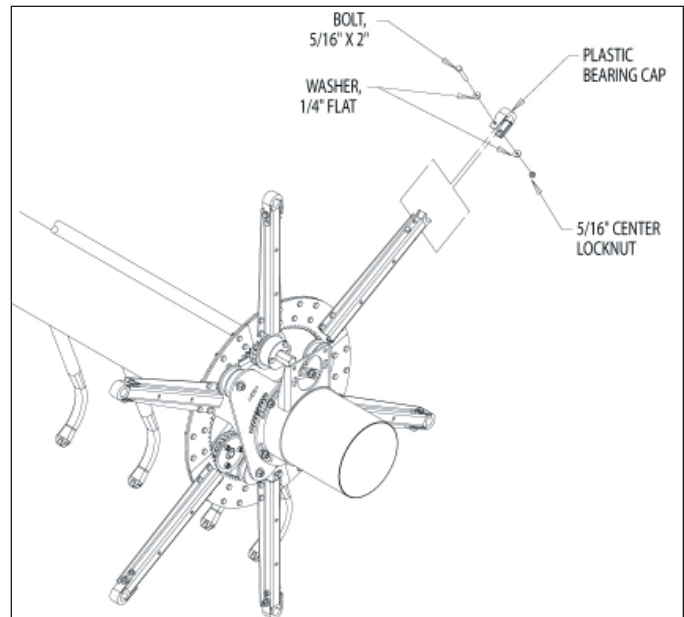

Figure 30, Remove plastic bearing caps
1. Remove the plastic bearing caps, by removing one 5/16" x 2" bolt, one 5/16" centerlock nut and two 1/4" flat washers per each reel arm (Figure 30).
- C. Reattach the plastic bearing caps, by installing one 5/16" X 2" bolt, one 5/16" centerlock nut and two 5/16" flat washers per each reel arm (Figure 30).